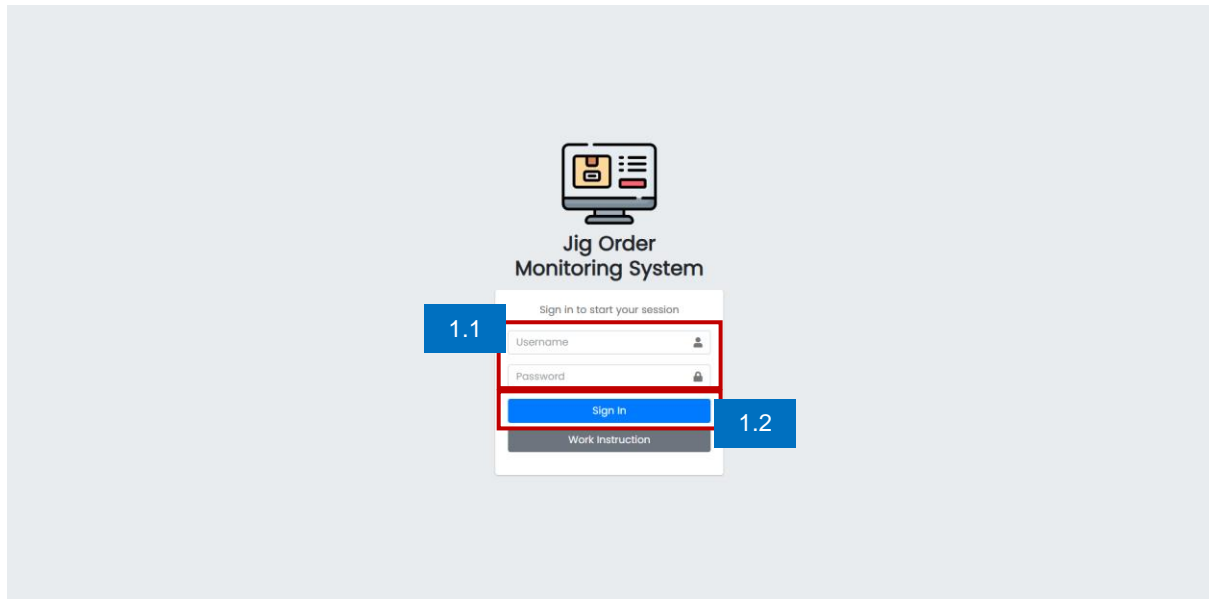

Figure 11. Login Page
1.1 Enter Username and Password. (See Figure 11)
1.2 Click Sign In Button to access Main Form. (See Figure 11)